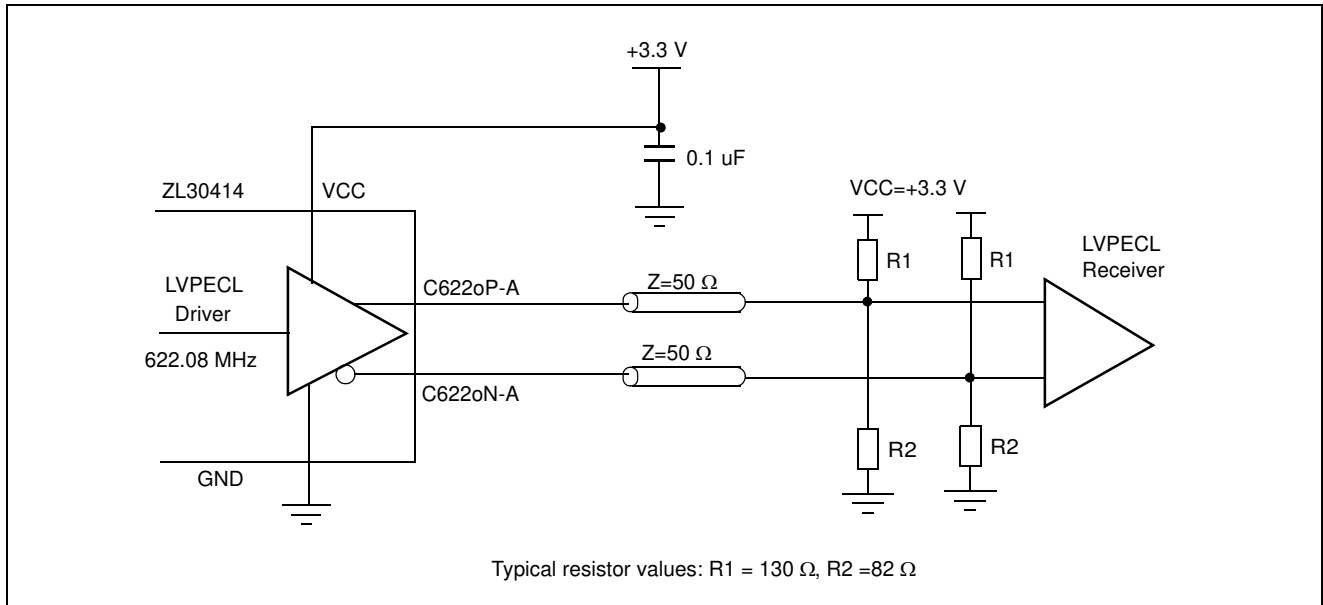

Figure 8 - LVPECL to LVPECL Interface
- Note 2: LVPECL outputs terminated with  $Z_T = 50\ \Omega$  resistors biased to  $V_{CC}-2\text{V}$  (see Figure 8)